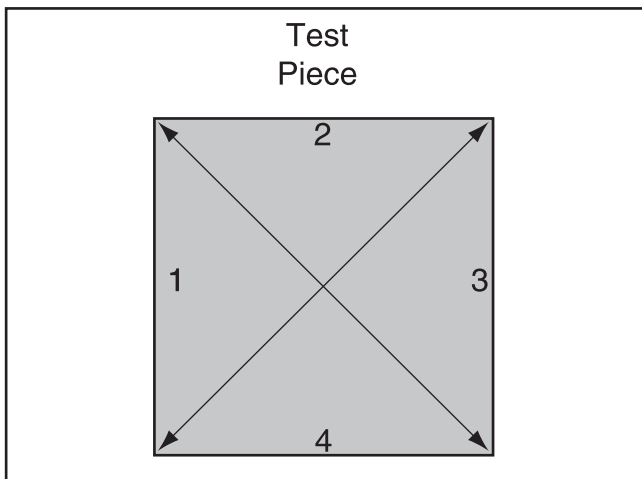

Figure 140. Fence adjustment test piece.
4. Measure the test piece diagonally from corner-to-corner as shown in **Figure 140**.